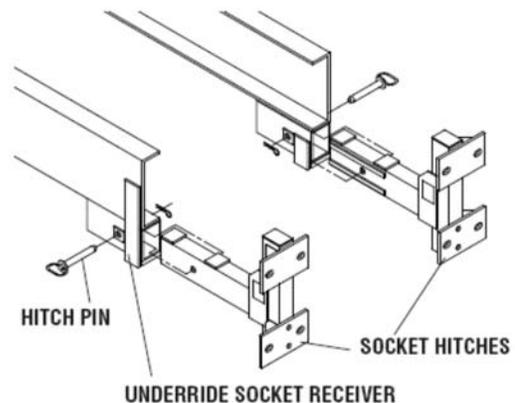

Figure 26
- E. Remove the Socket Hitches from the Underride Socket Receivers by removing both 1 x 6 1/4" hitch pins and retainer pins (Figure 26). If misalignment makes removal difficult, it may be necessary to adjust Jacks or temporarily disengage the TMA from the Socket Hitches. This can be done by removing the two 1 1/4 x 7" hitch pins and retainer pins as shown in Figure 26. Loosen the hardware to ease interference and be sure to retighten.